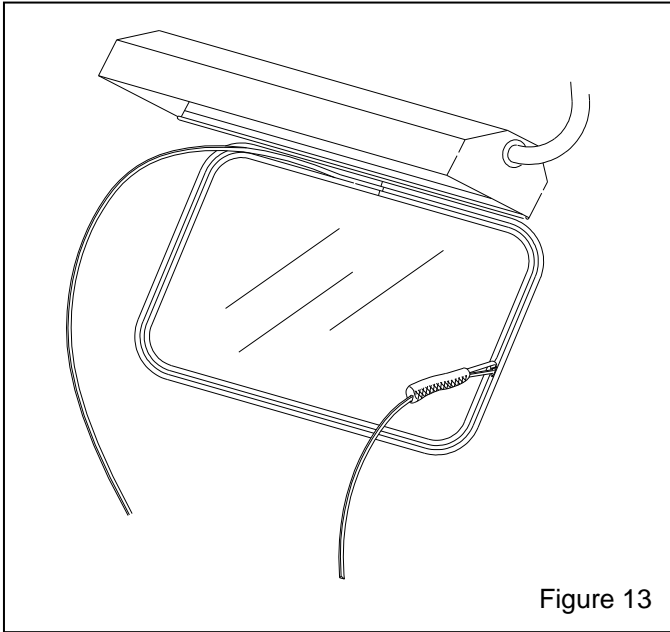

Figure 13
**6.1.11** Feed the filler-strip while pulling the tool through the top of the channel, down the side and across the bottom until that end of the strip is in place. Refer to Figure 13.